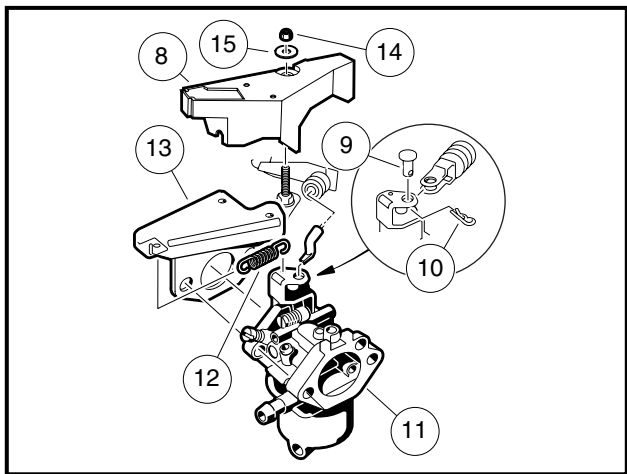

Figure 2-38 Governor Cable Connection
- 5.7. Tighten muffler clamp (6) to 40 in-lb (4.5 N·m).
6. Install carburetor (11), throttle spring (12) and throttle spring bracket (13). Tighten to 50 in-lb (5.6 N·m) (**Figure 2-38, Page 2-20**).
- 8.1. Install governor cable clevis pin (9) through cable clevis and throttle valve lever and install a new cotter pin (10) (Figure 2-38, Page 2-20).
- 9.1. Install 'Z' shaped cable end into carburetor throttle valve lever (Figure 2-38, Page 2-20).
10. Install the governor guard (8), flat washer (15), and nylon locknut (14). Tighten to 30 in-lb (3.4 N·m) (Figure 2-38, Page 2-20).